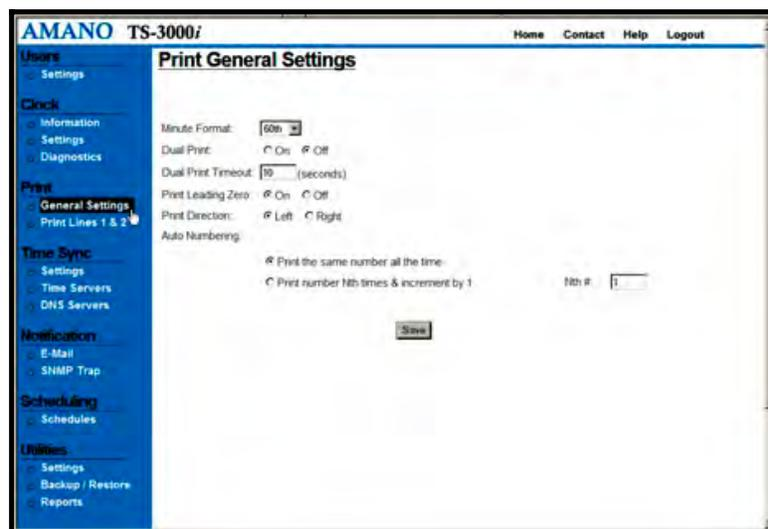

Figure 4-6: Print General Settings
Step 1. Click on the General Settings link under Print, and the **Print General Settings** screen will appear (see *Figure 4-6*).